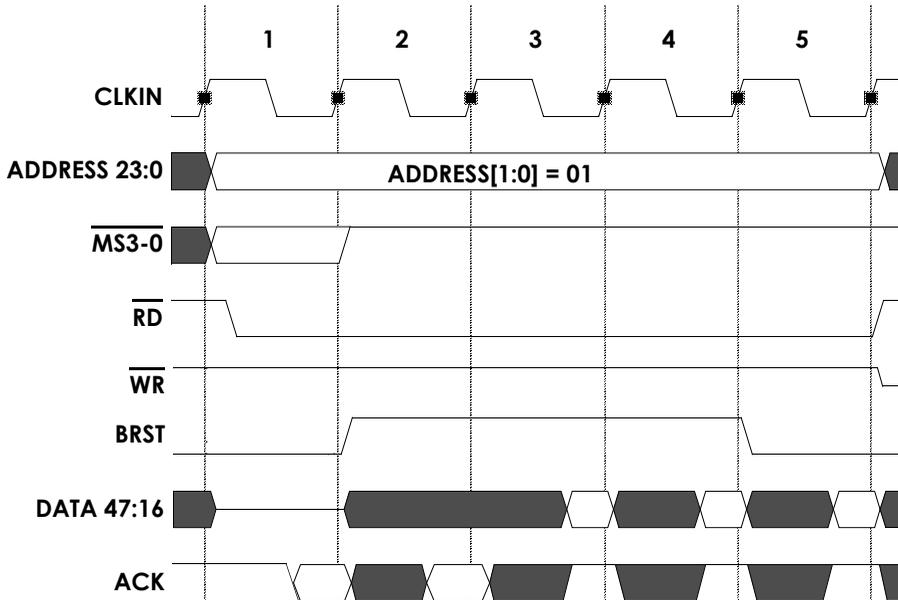

Figure 7-13. External Memory Synchronous Burst Read Example
An example of a synchronous burst read of length three appears in Figure 7-13. Here, the bank used in the transfer has two waitstates.
External memory synchronous burst reads occur with the following sequence of events as shown in Figure 7-13 on page 7-32:
1. (cycle 1 in Figure 7-13) If  $\overline{\text{ACK}}$  is sampled asserted at the beginning of cycle 1, the DSP drives the read address and asserts a memory select signal ( $\overline{\text{MS}}_3-0$ ) to indicate the selected bank.